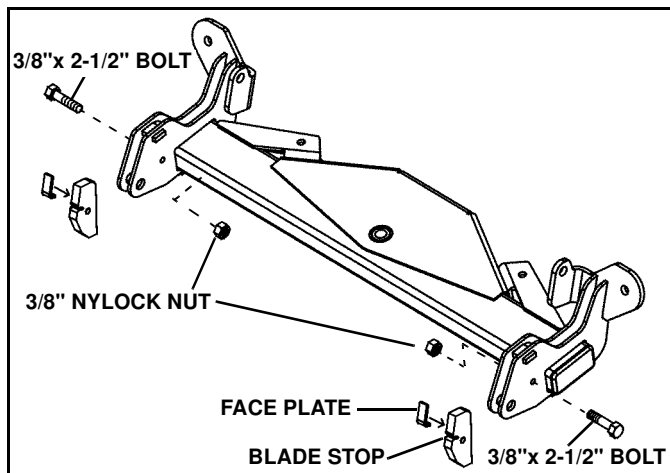

Figure 2-1
2. Slide the metal face plates into the blade stops from the side. Place the stops between the lugs on the swing frame. Secure with 3/8" x 2-1/2" bolts and locking nuts. (See Figure 2-1). Bolts and nuts are in the blade parts bag.